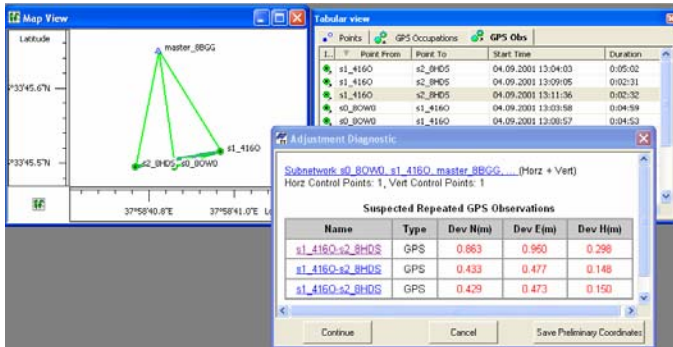

Figure 6-16. Selection of Repeated Observation in Map and Tabular View
- Click the hyperlink to access the data that caused the error. Edit the data and click **Restart** to continue the network adjustment (Figure 6-16 on page 6-15).